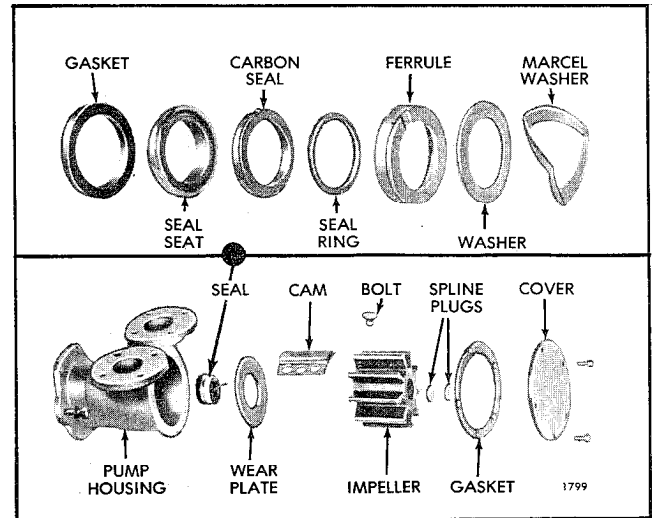

Fig. 20 - Raw Water Pump Details and Relative Location of Parts
The impeller (Fig. 20) is self-lubricated by the water pumped and should be primed before starting the engine.
1. Remove the cover screws and lift the cover and gasket from the housing (Fig. 20). Note the position of the impeller blades to facilitate reassembly.